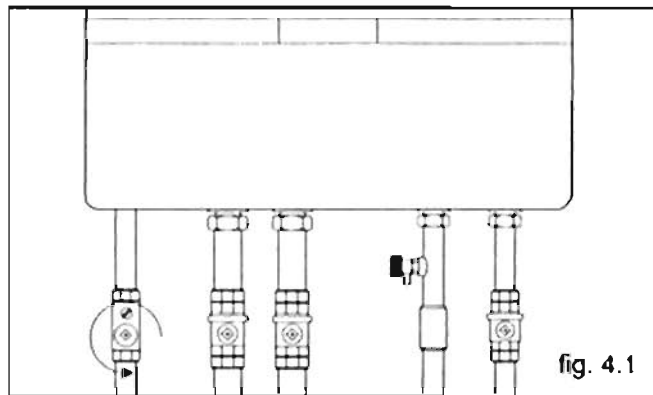

fig. 4.1
- 2 Open the gas cock (drawn with the knob in "open" position on the appliance) and check the gas connector on the appliance for leaks (see fig. 4.1.).